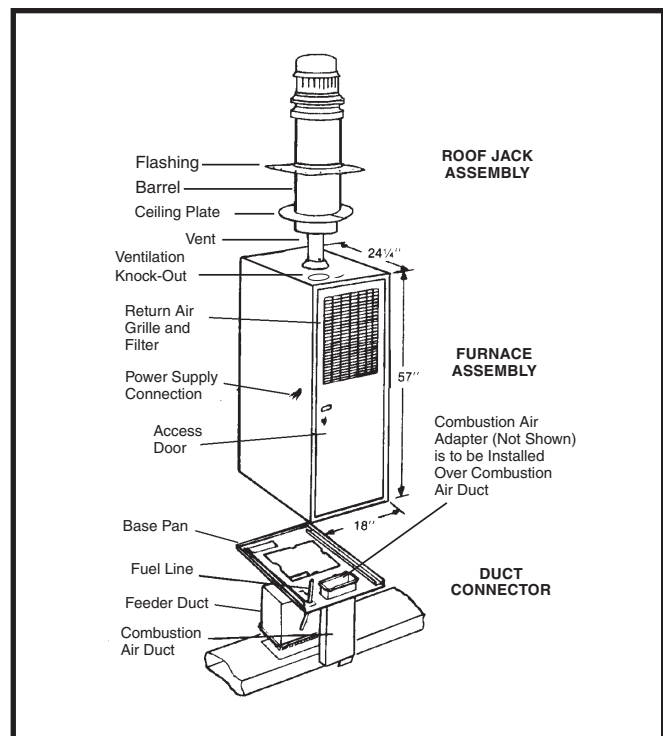
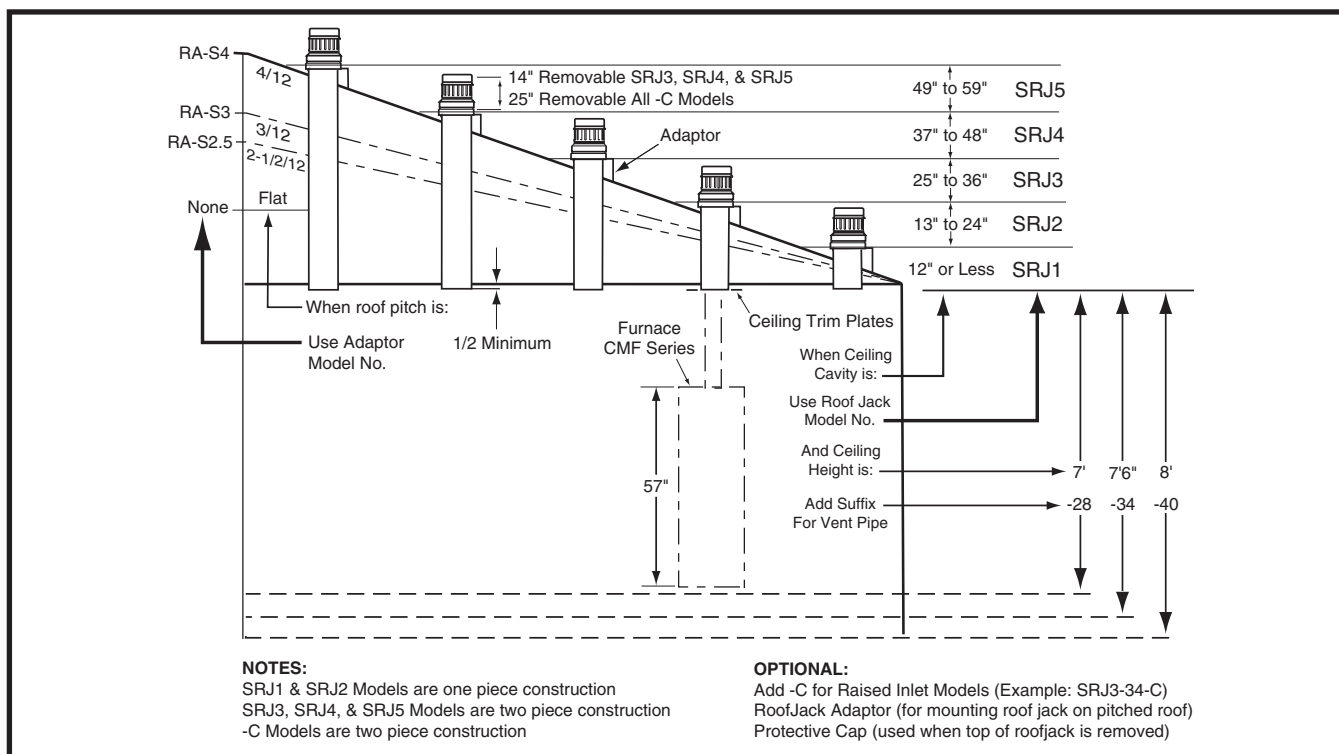

Figure 8. Typical Furnace Installation for Manufactured Housing Applications
Figure 9. Selection of Roof Jack & Accessories Chart
Required ceiling and roof cut-out openings must be accurately located to prevent hazardous misalignment of the furnace and roof jack. Figure 8 displays a typical installation for manufactured housing applications. Refer to Figure 9 (page 12) to determine appropriate SRJ roof jack and accessories required for your installation. Install only SRJ series roof jack as specified on the furnace label.
- The roof jack and vent pipe as determined from the chart in Figure 9 must be applied.